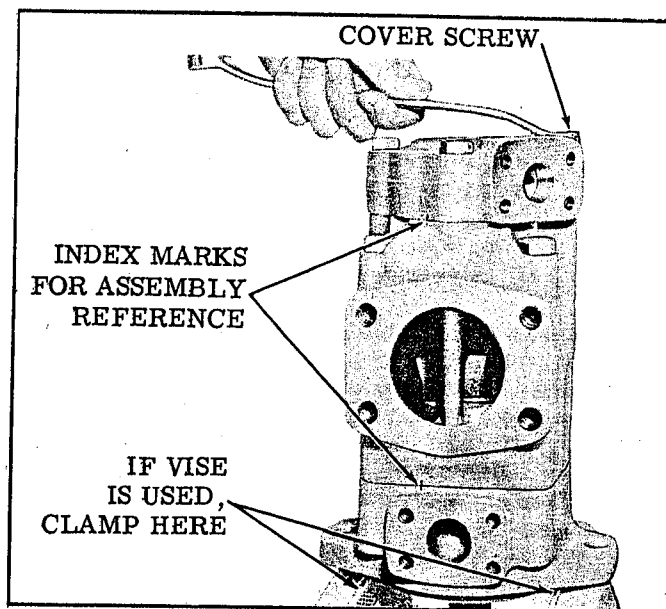

Figure 11. Removal of Cover Screws
During disassembly, pay particular attention to identification of the parts, especially the cartridges, for correct assembly. Figure 10 is an exploded view which shows the proper relationship of parts for disassembly and assembly. Refer to Figure 1 and Figure 10 for the correct assembled relationship of the parts. Various steps in the overhaul process are shown in Figures 11 through 24.
1. Basic Pump: Remove the foot mounting and shaft key (1) if used. Support the pump on blocks or clamp the body in a vise as shown in Figure 11. If a vise is used, use protective jaws to avoid damage to outlet body (15) and its machined surfaces. Mark the pump inlet, outlet and cover for correct reassembly. Remove the four cover screws (2) and lift cover (3) from the pump. This will expose the cover end cartridge (4). Discard square cut seal (18) and "O" ring (19).
2. Basic Pump: Clamp outlet body (15) in a vise or place on 2 x 4 wood blocks to facilitate assembly. See Figures 11 and 12.